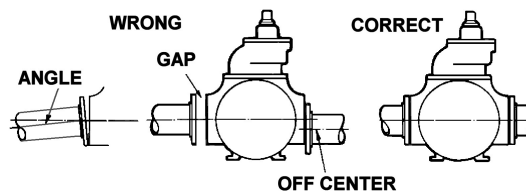

Figure 1
7. Check alignment of pipes to pump to avoid strains which might later cause misalignment. See Figure 1. Unbolt flanges or break union joints. Pipes should not spring away or drop down. After pump has been in operation for a week or two, completely recheck alignment.